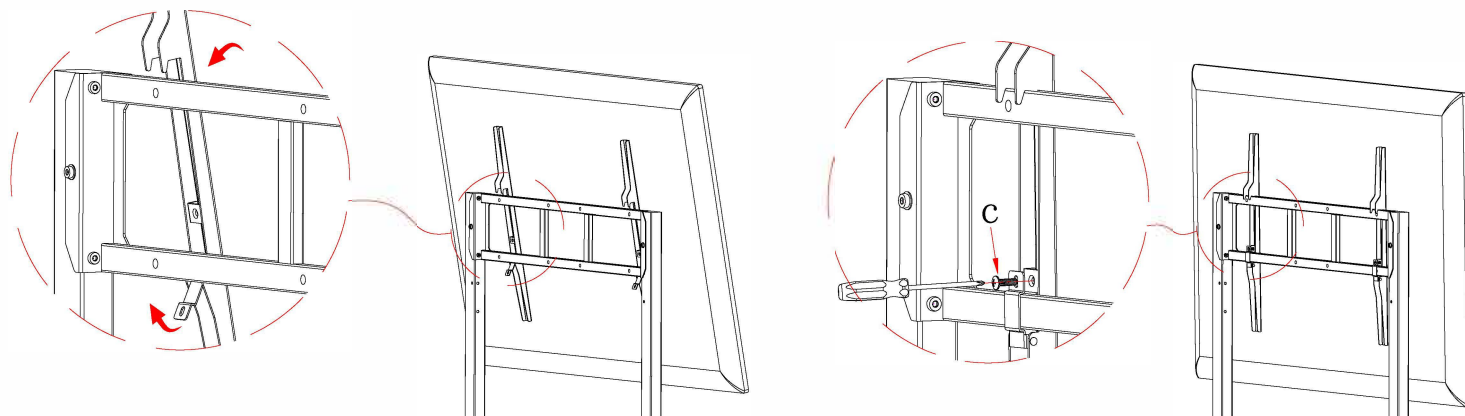

Figure 5
Step 5: Hang the board with the VESA bars on the frame, ensure the hooks are securely slotted into the connection frame, clamp the safety bracket to the connection frame, then use 2 screws (C) to secure it the bracket in place.(Figure 5).